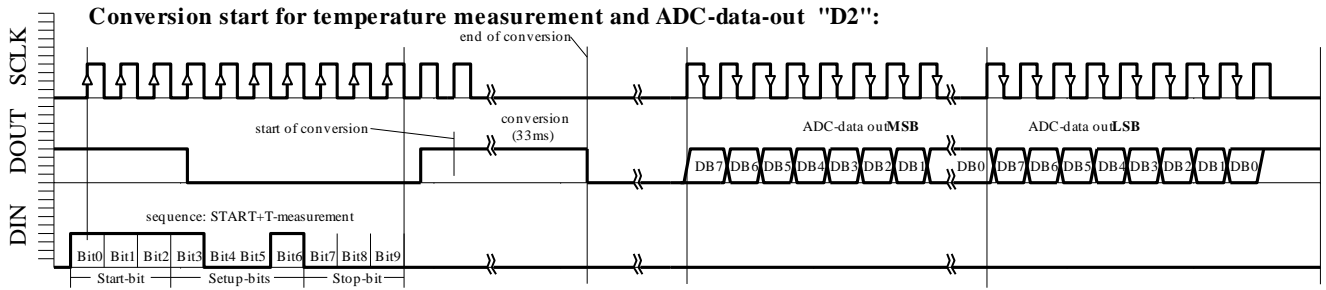

Fig. 6b: D2 ACQUISITION sequence
- ◆ Conversion start for temperature measurement and ADC-data-out “D2” (Figure 6b)